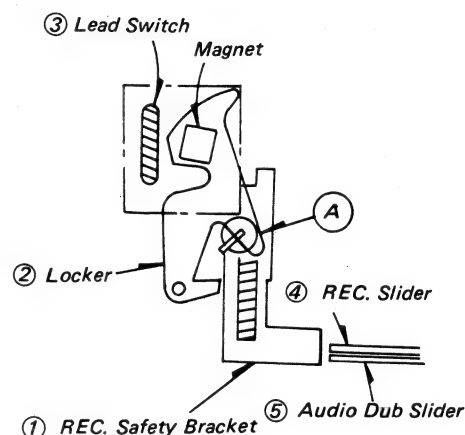

Fig. 5-2 Detecting Arrangement in Non-Cassette State
1. When the cassette compartment is depressed without the cassette, the absence of cassette does not press down the record safety bracket (1). However, the lead switch (3) does not pass a loading voltage because the locker (2) can not lock without release of portion (A).
2. The REC button and AUDIO DUB button can not depress because the REC slider (4) and AUDIO DUB slider (5) are not free to move as shown in Fig. 5-2.